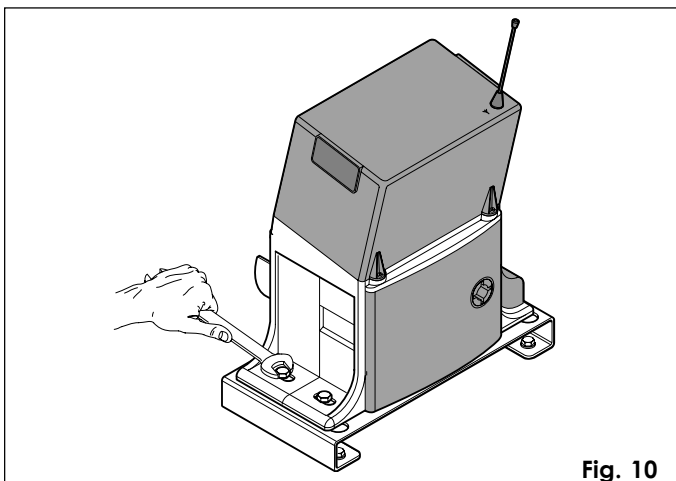

Fig. 10
- Secure the gearmotor to the foundation plate, tightening the screws as in Fig.10.